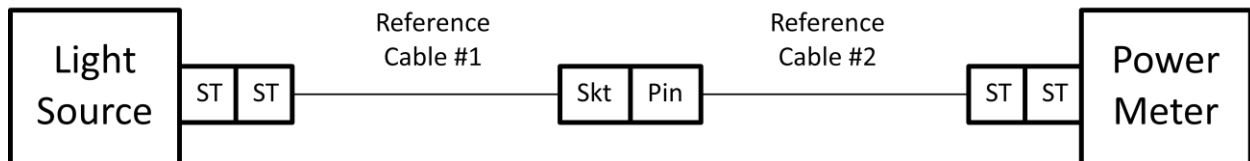

Figure 1. Reference Power Level Setup
- 1.7 Configure test setup per Figure 1.